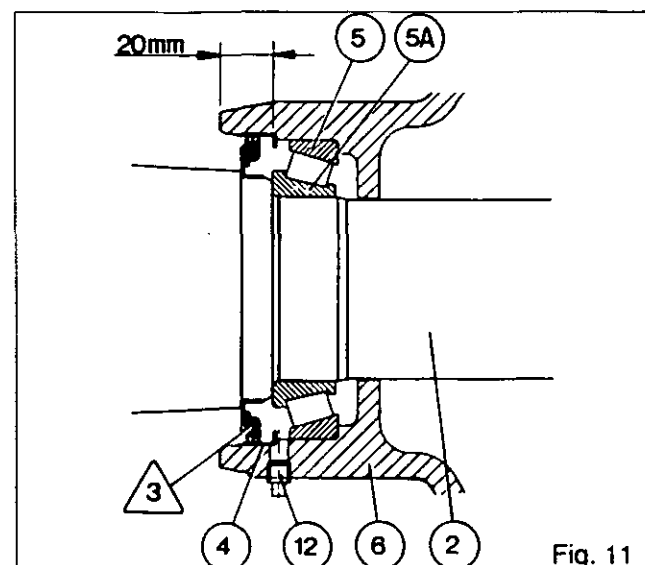

Fig. 11
12. Lubricate the cups (8) and (5) and press them fully on to the shoulder.
13. Press the housing (4) to within 20 mm of the trumpet housing (Fig.11).
**Note: Ensure that the seal is fitted the correct way round (Fig.11).**
15. Lubricate the shaft (2) and press the cone (5A) against the shoulder.
17. Protect the splines of the shaft (2) and insert it into the trumpet housing.
21. Replace the plug (12) by a grease nipple. Partly fill the cavity at the end of the trumpet housing between the cone (5A) and the seal /3\ with BP Agri-charge or an equivalent grease. Remove the grease nipple and refit the plug (Fig. 11).